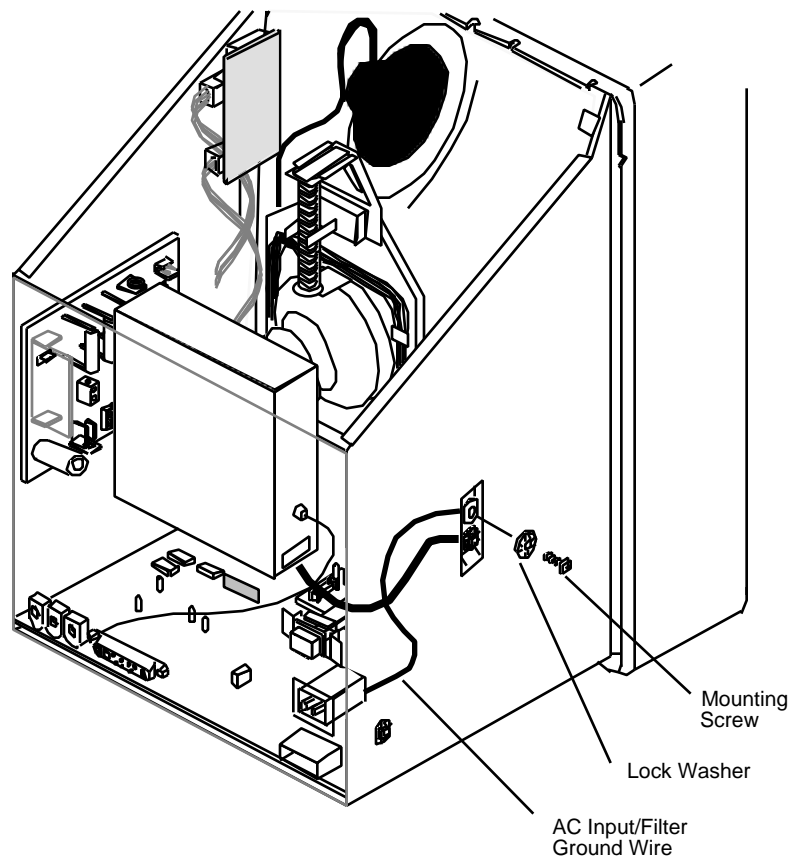

FIGURE 18
4. Remove the screw, lock washer, and AC input/filter ground wire from the ground bracket (**Figure 18**).
2. Install the AC input/filter ground wire on the chassis ground bracket with a lock washer and a screw (**Figure 18**).